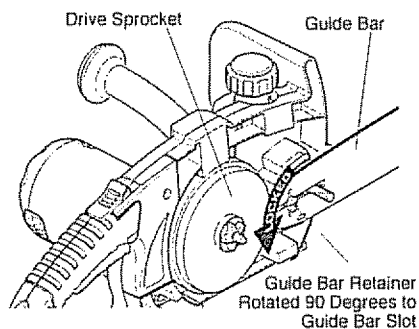

Figure 3 - Locking Guide Bar Retainer
5. Rotate guide bar retainer 90 degrees as shown in Figure 3